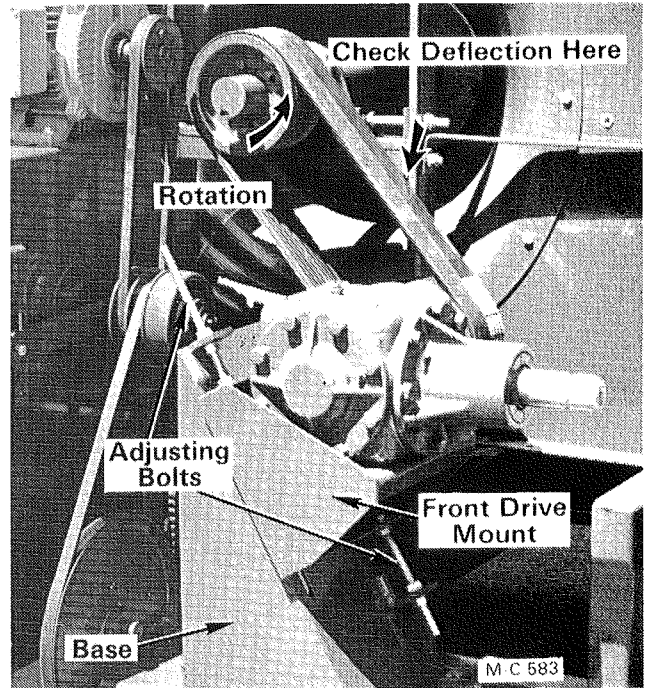

Figure 40
- Loosen the locknuts on the adjusting bolts. Turn the nuts on the adjusting bolts to move the gear box down to increase belt tension, see Figure 40.
- On new belts, adjust tension so that 66 lbs. of pressure will deflect the belt(s) 5/16". After 24 to 48 hours of running readjust belt tension so that 54 lbs. of pressure will deflect the belt(s) 5/16", see Figure 40.